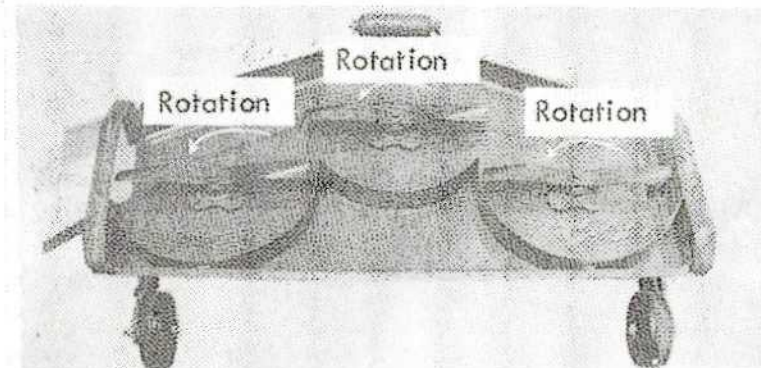

Figure 2
Blades: The 48-inch mower is designed with a clockwise rotation looking from the top of the mower. If the blades are removed for sharpening or replacement, be sure they are correctly installed in regard to the direction of rotation (See figure 2). To remove the blades, place blade wrench (33) through shield holes and through holes in sheave.